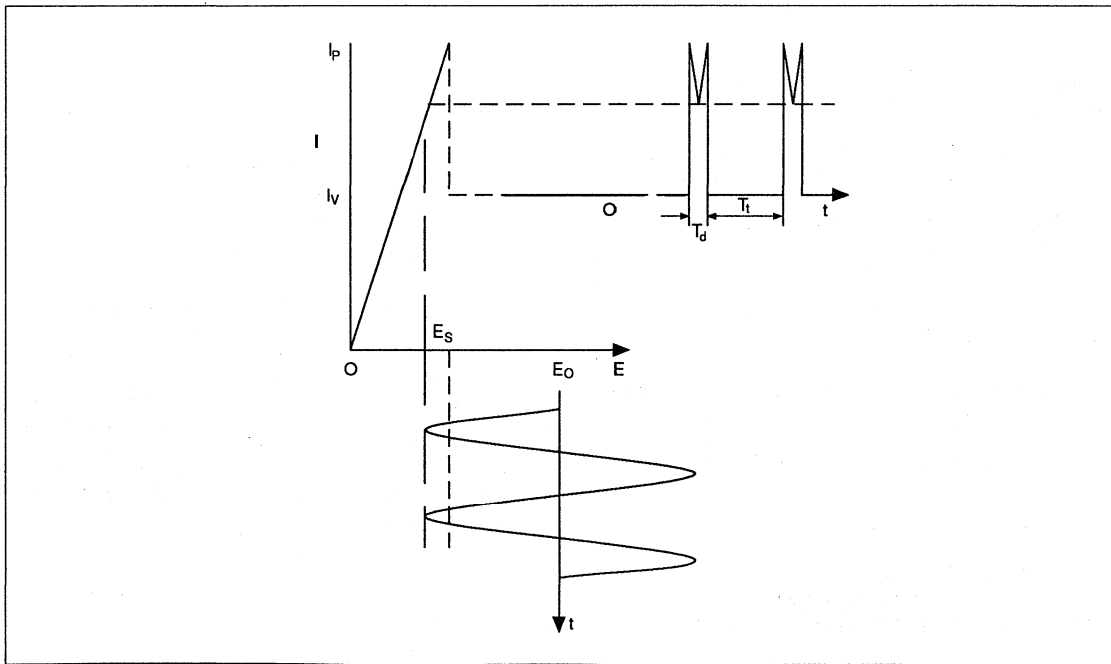

Figure 5. Current and field waveforms for delayed domain mode
Better efficiency and stability can be achieved by operating the Gunn device in the Delayed Domain Mode. Fig. 5 shows the basic voltage and current wave shapes for this mode of operation.
- (1) Total electric field across the device is below the critical field  $E_s$  over a part of the RF cycle (Fig. 5).
- (2) Current waveforms consist of broad spikes indicating low harmonic content and higher efficiency at fundamental.
- (3) RF field across the device is large indicating high impedance.
- (4) Operating frequency is determined mainly by the resonant frequency of the external circuit and can be made very stable. Also a device can be used over a much broader bandwidth below the transit time frequency.